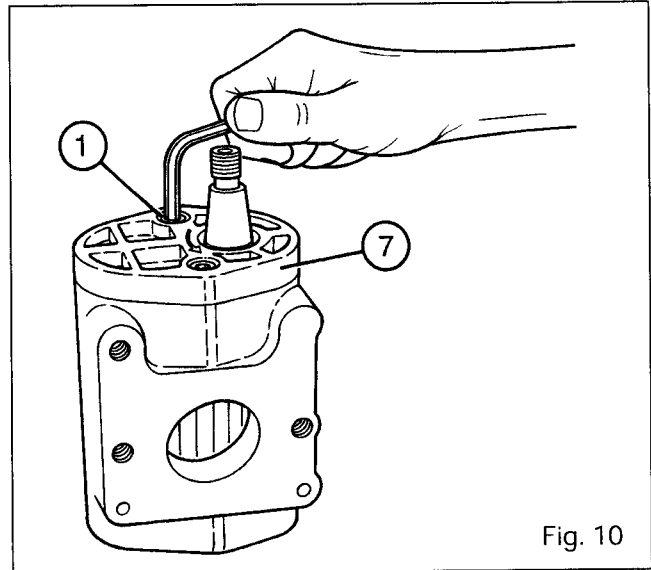

Fig. 10
28. Remove the bolts **(1)** and the cover **(7)** (Fig. 10).